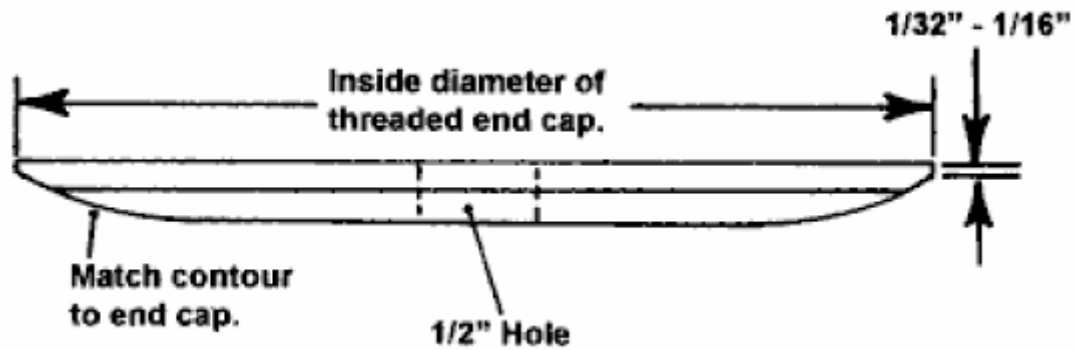

Figure 9: Disk Contour
1. After determining Generator height, obtain a 3-1/2" (3.50") outside diameter stainless steel tube with wall thickness of .040" to .063" and length 5" shorter than the determined height of the Generator. A standard alloy of T-304 stainless steel is recommended for the electrodes. This tube will be used to construct the outer electrode. Refer to the Generator exploded view of Figure 9 as an aid to correct construction.
10. Referring to figure 9, bevel the edges of the disk to fit the curved contour of the bottom of the end cap. Be sure the outer edge of the disk measures between 1/32" and 1/16" after beveling.